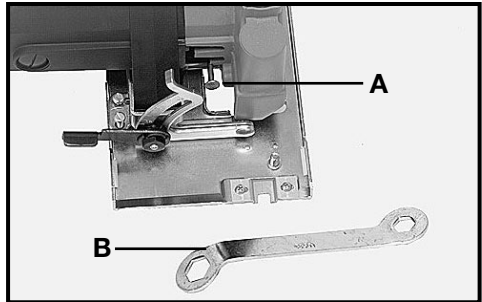

Fig. 1
2. Push in blade lock (A) Fig. 1 and rotate blade by hand until lock engages blade arbor.
3. While holding blade lock engaged, use wrench provided (B), Fig. 1, and loosen blade retaining bolt by rotating clockwise. **NOTE:** Blade retaining bolt has a left hand thread.